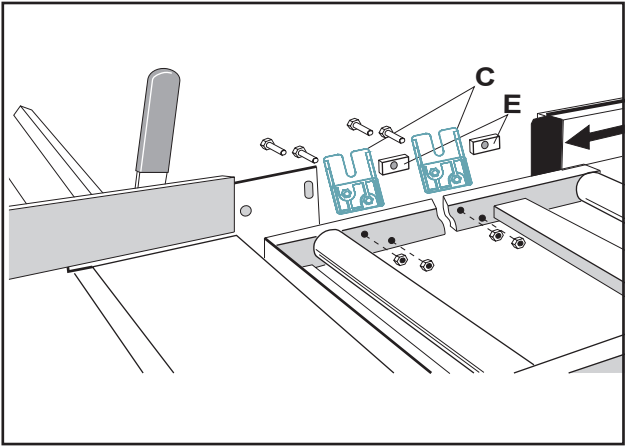

Fig. 3
- Screw the turntable locking handle into the nut below the table and secure with the lock-nut (Fig. 3).
- Affix the fastening bracket **C** and the locking handle to the infeed table using nut **E** (Fig. 3).